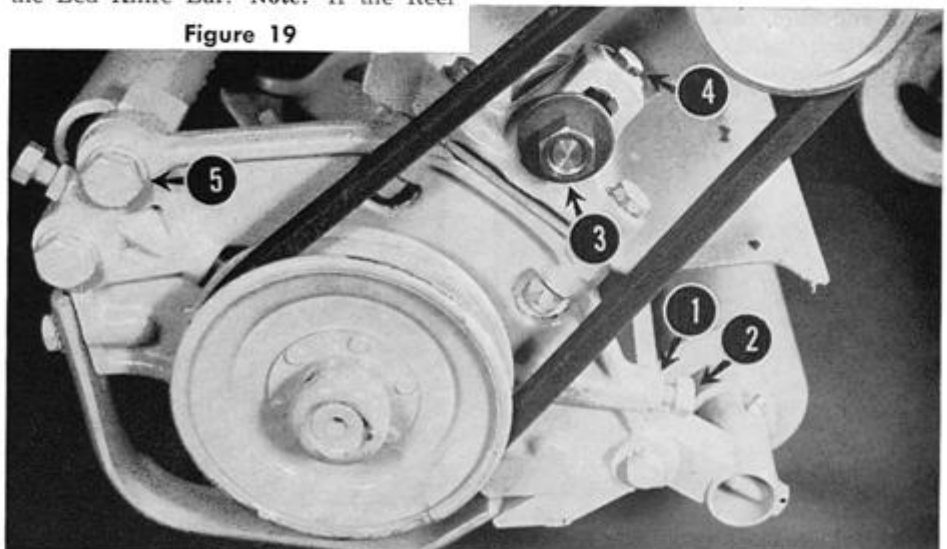
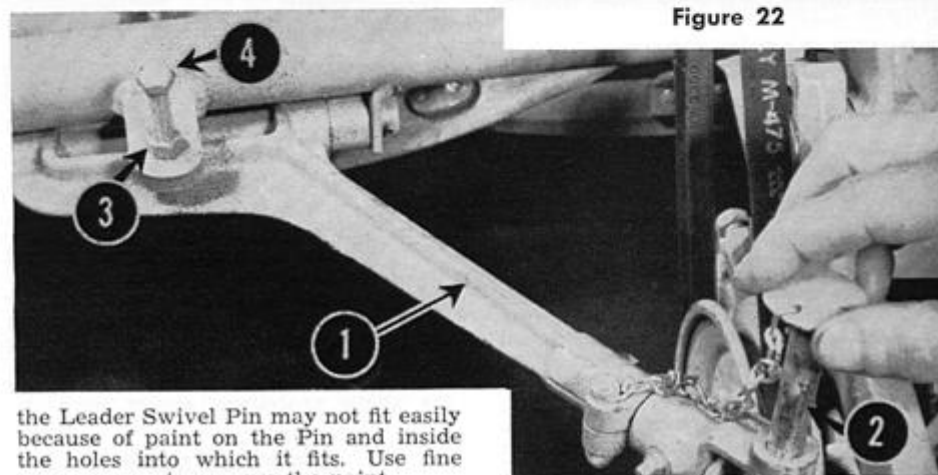

Figure 19
Figure 22
The Reel is adjusted by the Adjustment Lock Nut, 1 in Figure 19, and the Reel Adjusting Bolt, 2 in Figure 19. To move the Reel closer to the Bar, loosen the Adjustment Lock Nut and turn the Reel Adjusting Bolt counter-clockwise; to move it from the Bar, turn the Reel Adjusting Bolt clockwise.
To tighten a Belt, loosen the Belt Adjusting Nut, 3 in Figure 19, and turn
the Belt Adjusting Bolt, 4 in Figure 19, clockwise. To loosen, turn the Adjusting Bolt counter-clockwise. After proper adjustment is reached tighten the Adjusting Nut.
Next attach the Leader, 1 in Figure 22, as follows:
1. Remove the top Tie Rod Bolt, 5 in Figure 19, replacing it with the Leader Pivot and Stud, as shown in Figure 22.
2. Attach the Leader Swivel to the Leader Pivot by using the Leader Swivel Pin, 2 in Figure 22. On new equipment,
CUTTING HEIGHT. To adjust the cutting height, loosen the lock nut, 3 in Figure 22, and turn the Height Adjusting Screw, 4 in Figure 22, clockwise (to increase cutting height) or counter-clockwise (to lower cutting height). Tighten the lock nut when proper adjustment is reached.